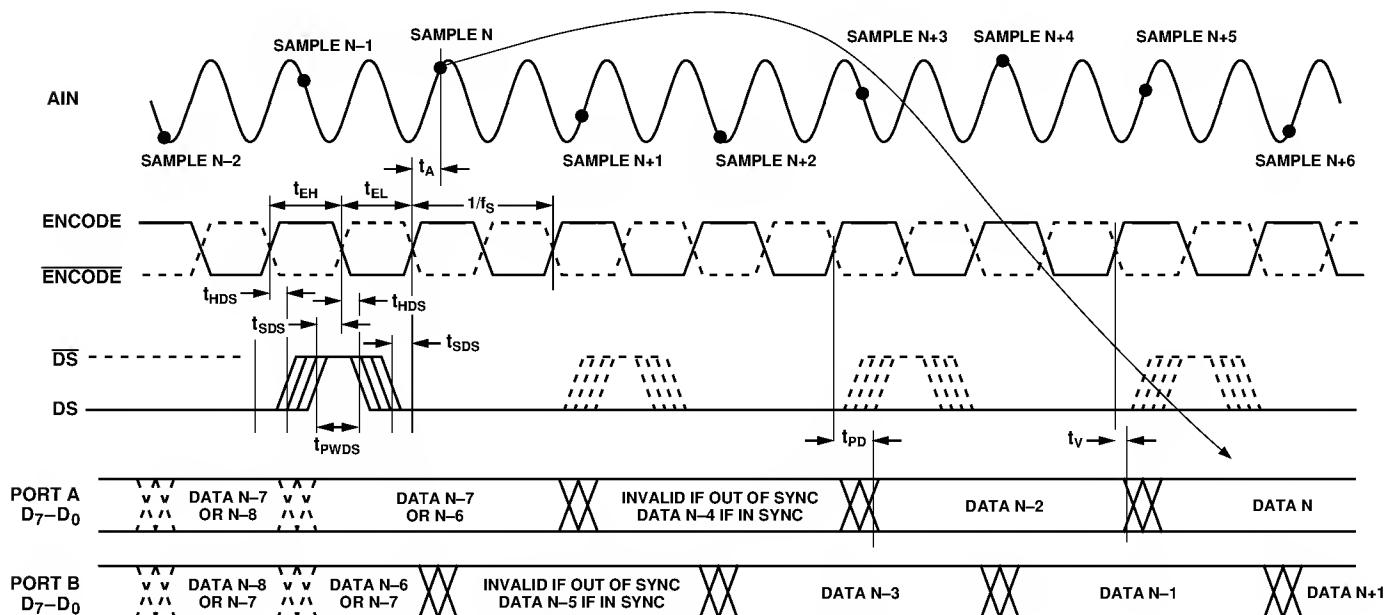

Figure 2. Timing—Dual Channel Mode
In Dual Port Mode (**DEMUX** = LOW), the conversion results are alternated between the two output ports (Figure 2). This limits the data output rate at either port to 1/2 the conversion rate (**ENCODE**), and supports conversion at up to 200 M SPS with TTL/CMOS compatible interfaces. Dual Channel Mode is required for guaranteed operation above 100 M SPS, but may be enabled at any specified conversion rate.
The multiplexing is controlled internally via a clock divider, which introduces a degree of ambiguity in the port assignments. Figure 2 illustrates that, prior to synchronization, either Port A or Port B may produce the even or odd samples. This is resolved by exercising the Data Sync (DS) control, a differential input (identical to the ENCODE input), which facilitates operation at high speed.
Applications that call for the AD 9054 to be synchronized at power-up or only periodically during calibration/reset (i.e., valid data is not required prior to synchronization), need only be concerned with the timing of the falling edge of D S. The falling edge of D S must satisfy the setup time defined by Figure 2 and